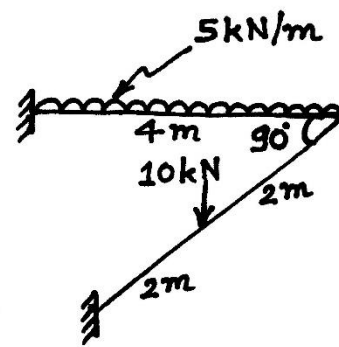

Fig. 2
- Q.2** (a) Formulate combined joint load vector for the grid shown in fig.2. **03**
- Q.3** (a) Determine joint displacements and member forces of the truss shown in fig.2. All the members have same axial rigidity. Take  $EA =$  constant. **14**